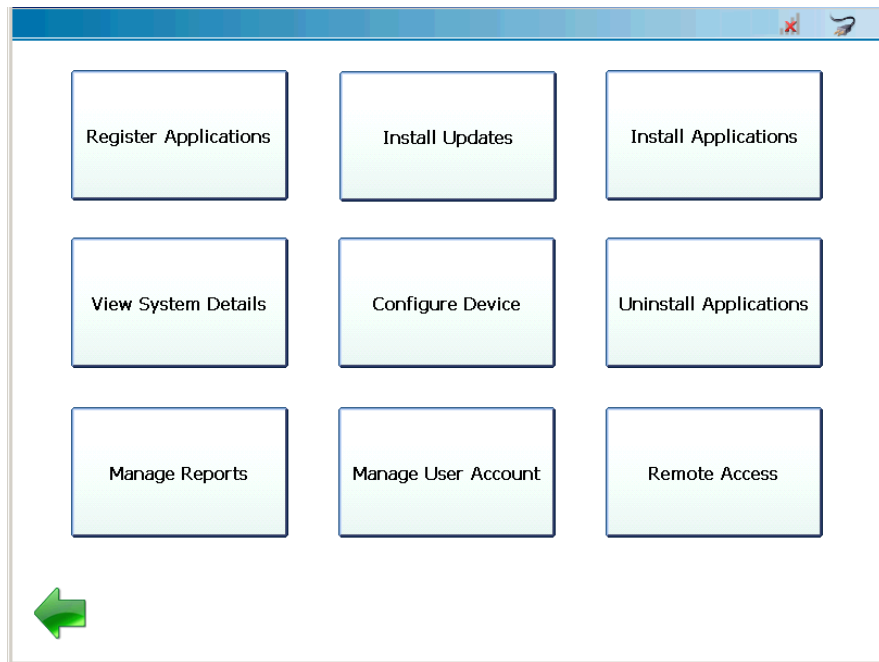

Figure 5.8 Admin Menu
- Touch **No** to return to the Admin Menu (Figure 5.8).